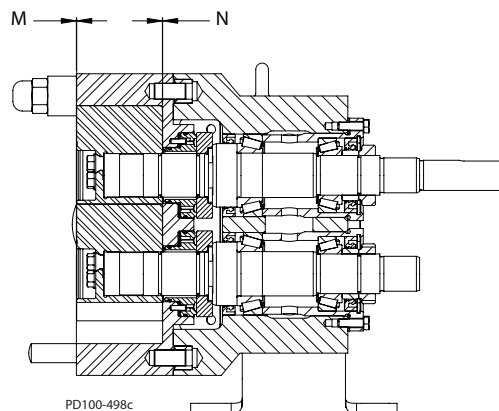

Figure 59 - Measure Clearance
5. Check the resulting backface and front face clearance (items M and N in Figure 59). Adjust the shims as necessary.